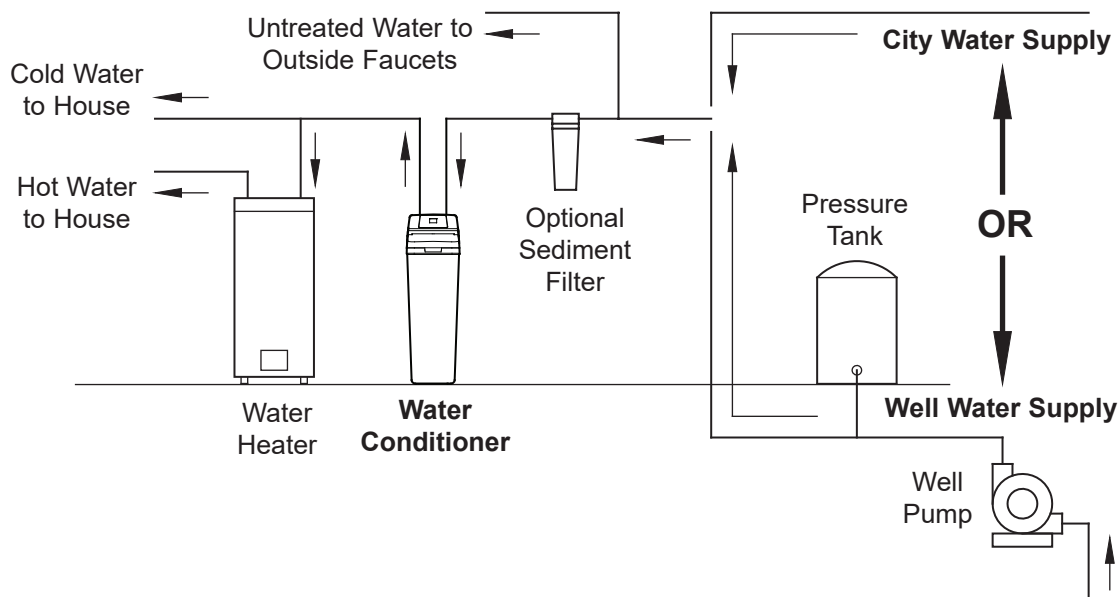

FIG. 4
- Always install the water conditioner between the water inlet and water heater. Any other installed water conditioning equipment should be installed between the water inlet and water conditioner (See Figure 4 below).